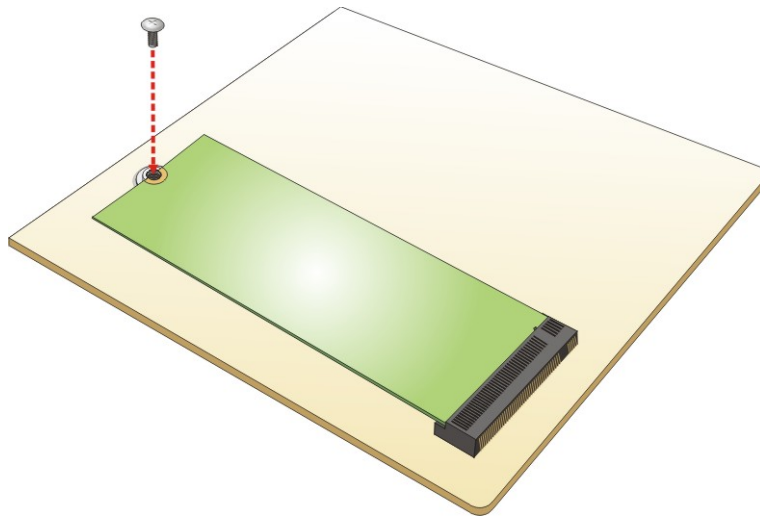

Figure 3-12: Securing the M.2 Module
Step 5: Push the M.2 module down and secure it with the previously removed retention screw (**Figure 3-12**).